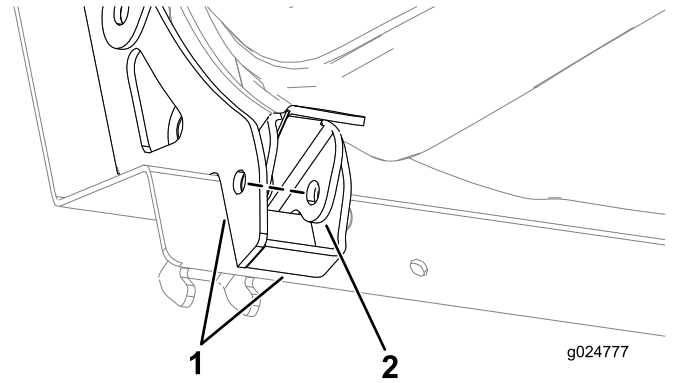

Figure 57
5. Align the holes in the latch with the holes in the seat gussets (Figure 57).